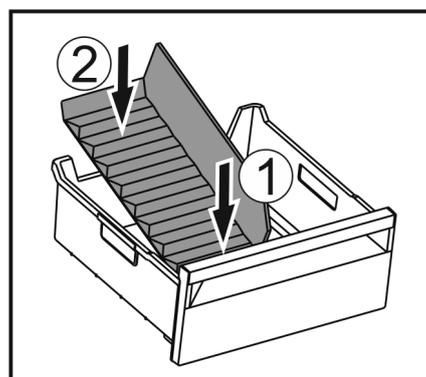

Fig. 136
- ▶ Insert the front part of the ice compartment divider. Fig. 136 (1)
- ▶ Lower the rear part of the ice compartment divider to the drawer bottom. Fig. 136 (2)